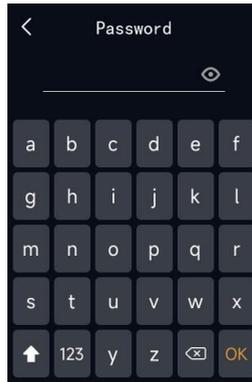
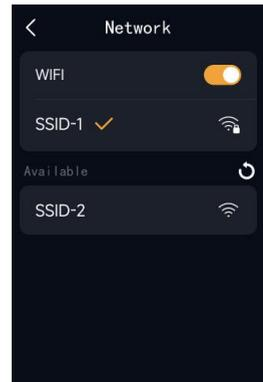

Figure 4-3-2
Figure 4-3-3
- 2) Select the desired hotspot, enter the password (Figure 4-3-2), and connect (Figure 4-3-3).